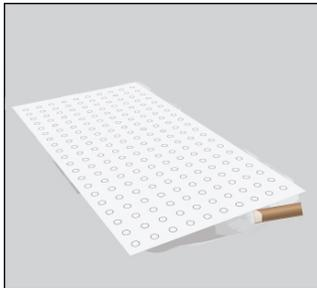

Figure 10: Clean up excessive bonder paste and sealer.
2. *Clean excess Bonder Paste:* If after hand tacking, the bonder paste did not squeeze out past the edges of the domed sheets, application of additional bonder paste will be necessary. To do so, gently lift the domed sheet, insert the bonder paste mixing nozzle, and apply a small amount of bonder paste. Hand-tack the tile down into the bonder paste. Clean off any excess bonder paste around the seam joints, and edges using the wood scraper provided.(See Figure 10). Using the wood scraper scoop up the excess bonder paste. Use the paper towels provided to clean the wood scraper at regular intervals.